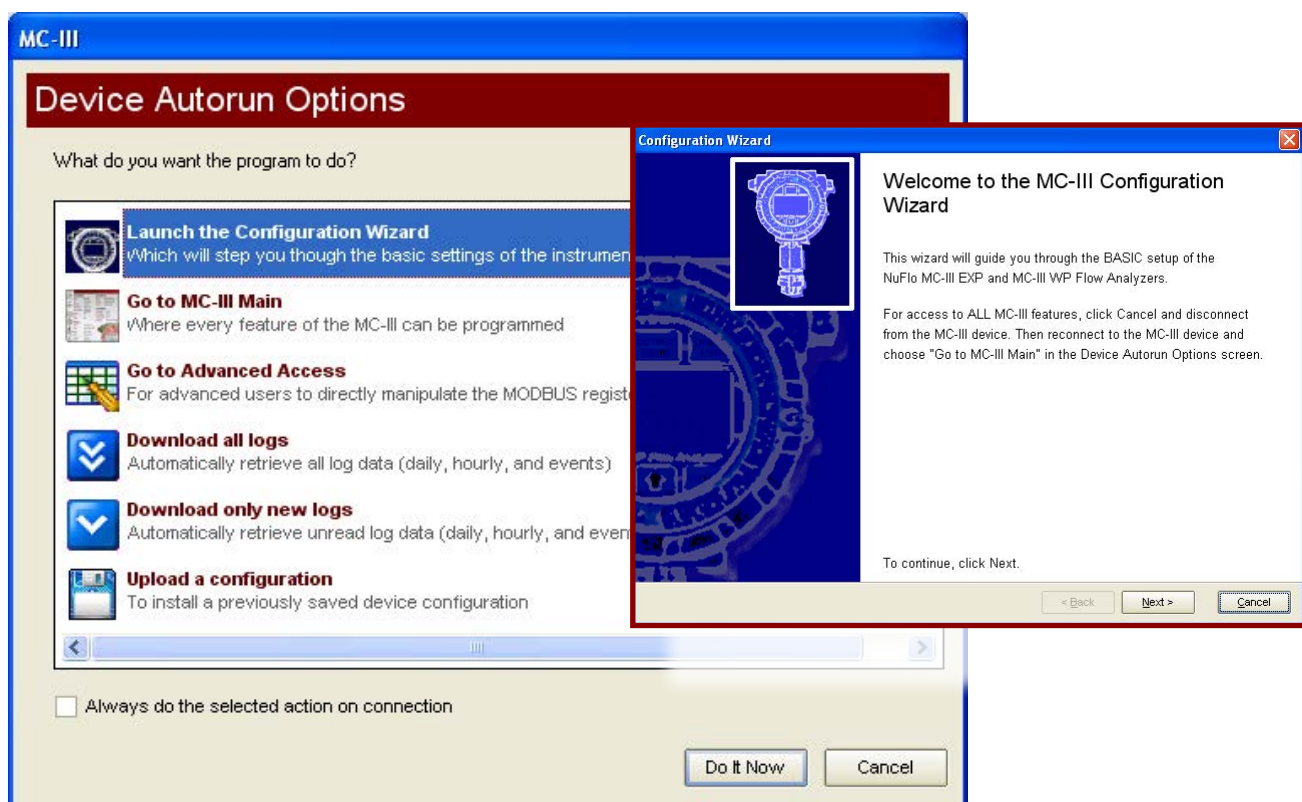

Figure 4.11—Configuration Wizard (for novice users)
- The “Configuration Wizard” (Figure 4.11) condenses the configuration process into nine easy-to-follow steps (compensated gas measurement and multipoint linearization are not supported in the wizard).